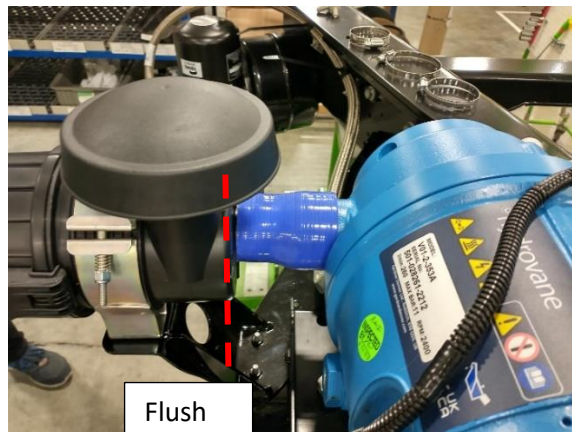

Figure 15: Air Compressor New Coupler
27. Ensure that the new Coupler **(188-6952)** is mounted flush against the filter box as shown in Figure 15.